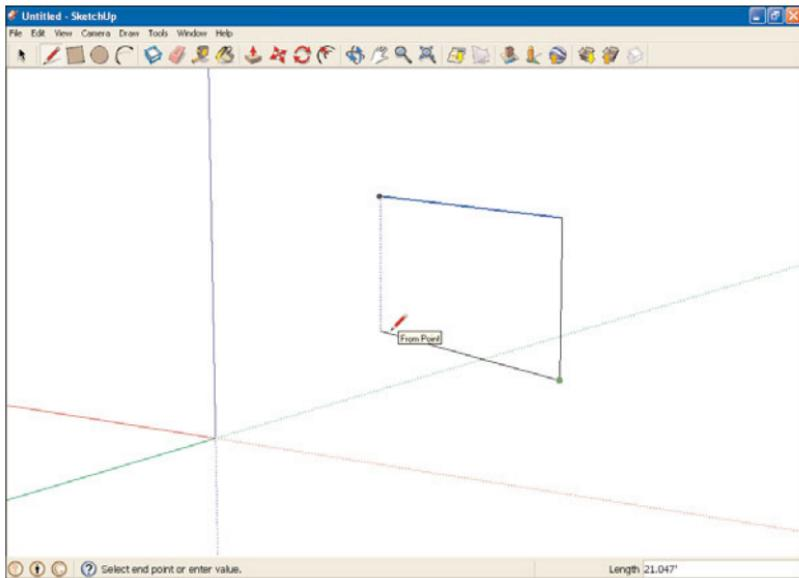

FIGURE 2.22 Inferring an edge.
4. Draw a new edge from the end point of the vertical edge until a dotted line appears connecting the new edge and the top edge, as shown in Figure 2.22. That dotted line appears automatically as SketchUp infers you might want to line up the current edge's end point with the end point of the top edge.